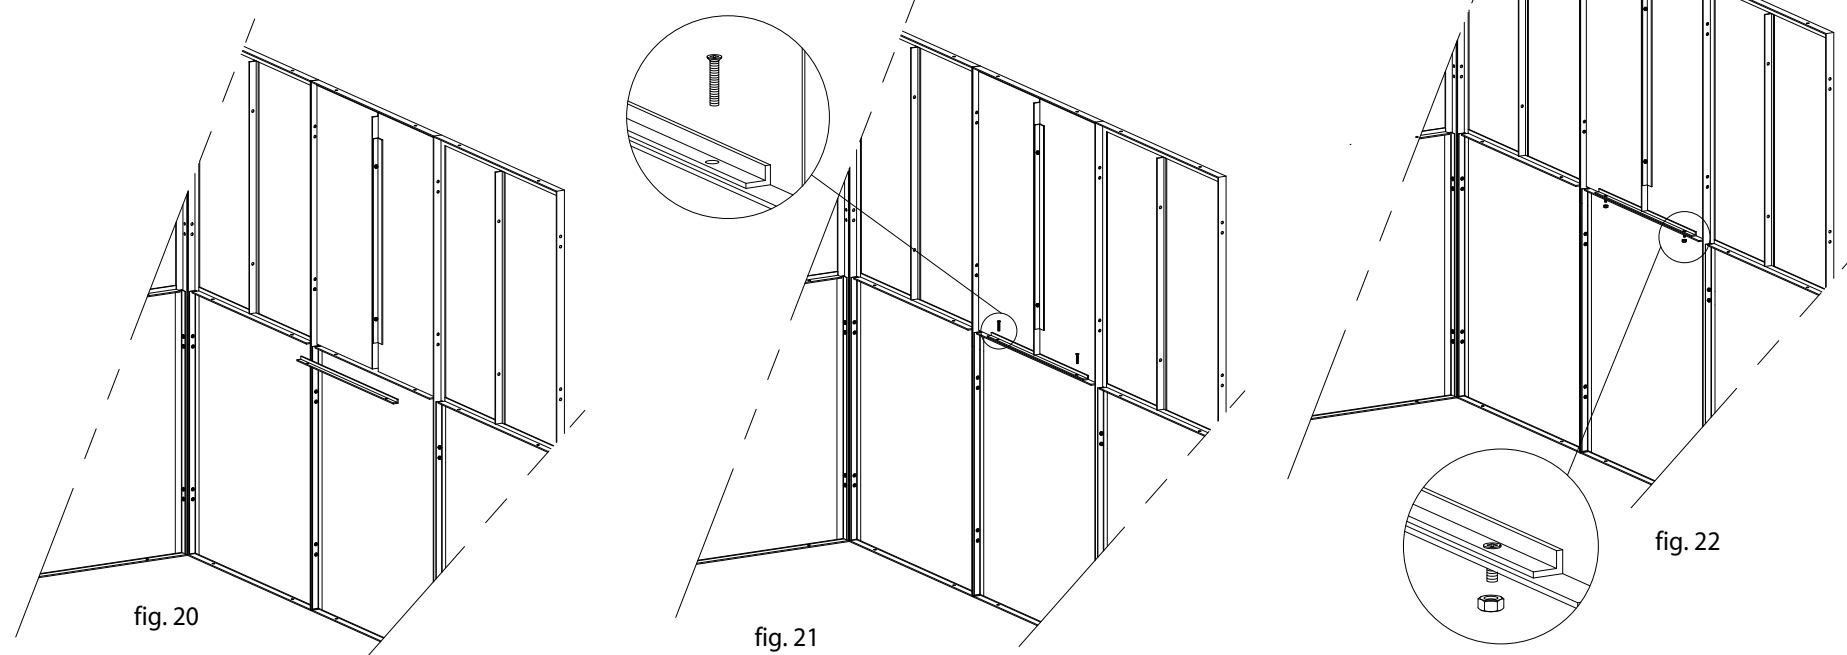

fig. 22
- GB** Match the holes of another "L" profile with the holes located in the lower part of the windowed frame (fig. 20). Insert the screws (fig. 21) in the through holes and fix them with the nuts provided as described in figure 22. Repeat these operations on all the panels making up the greenhouse, keeping in mind the following exceptions: